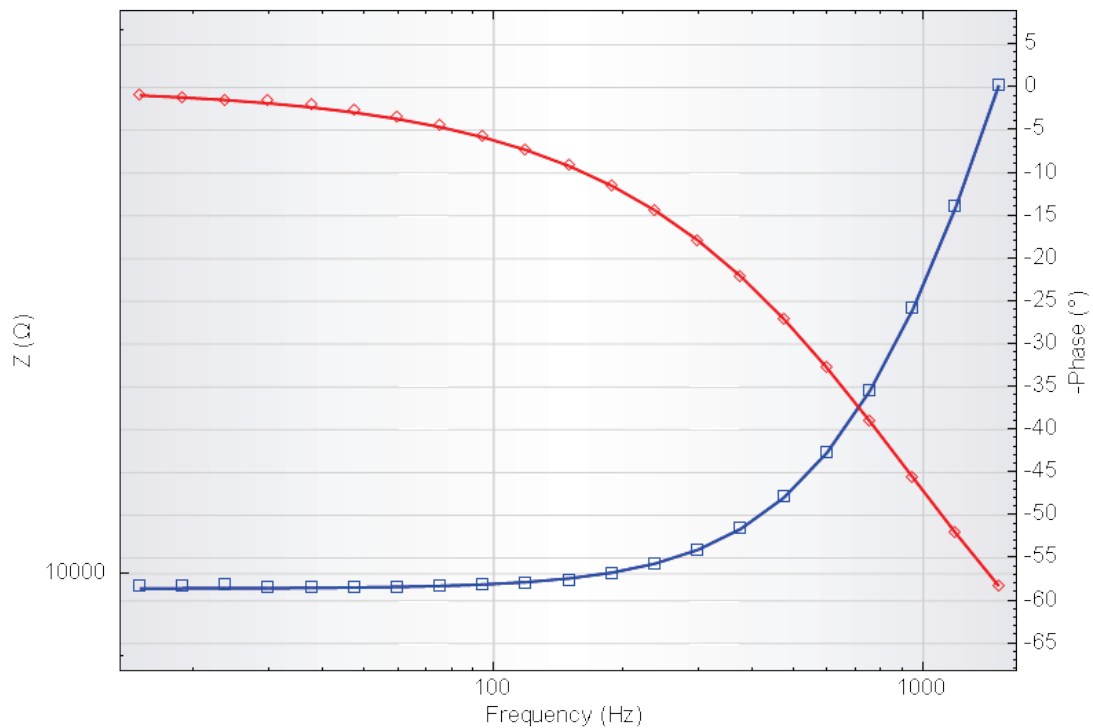

Figure 1.107 – Typical Bode plot obtained during the C1 calibration
6. During the measurement, the measured data will be plotted as a Bode plot should be similar to the example shown in Figure 1.107.